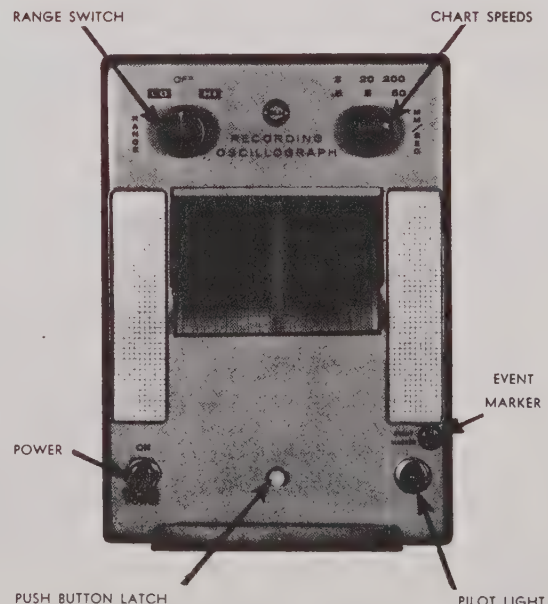

Fig. 1-3A "Meterite" Front Panel Controls
1.6 Controls. (Figures 1-3A and 1-3B)
2.4.1 Front Panel Controls. (See Figure 1-3A.)